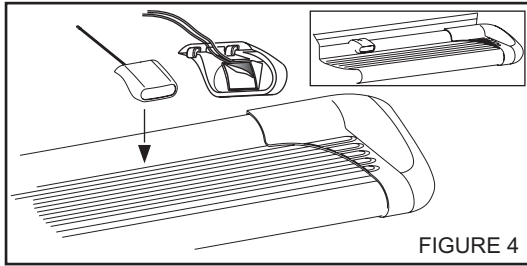
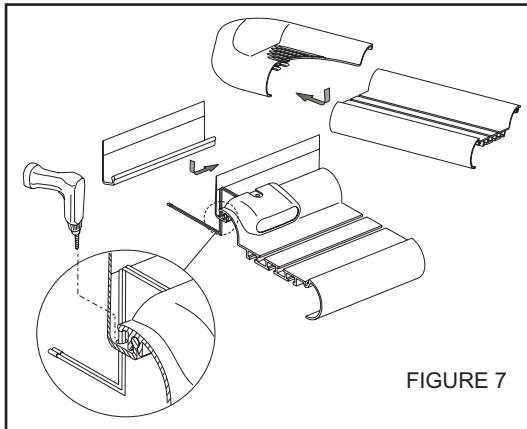

FIGURE 4
FIGURE 7
- STEP 9. For Sure-Grip Running Boards, slide closure strip as shown. Set lights (if purchased) in appropriate location. Attach to Sure-Grip Running Board as shown. **SEE FIGURE 4.** Drill hole through plastic strip and run wires as shown. **SEE FIGURE 7.**